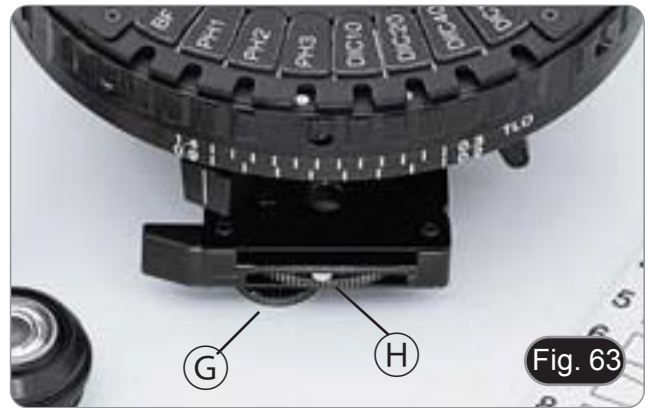

Fig. 63
4. Turn the polarizer knob (H) under the condenser to achieve maximum darkening of the eyepieces, and then tighten the polarizer locking screw (G). (Fig. 63)